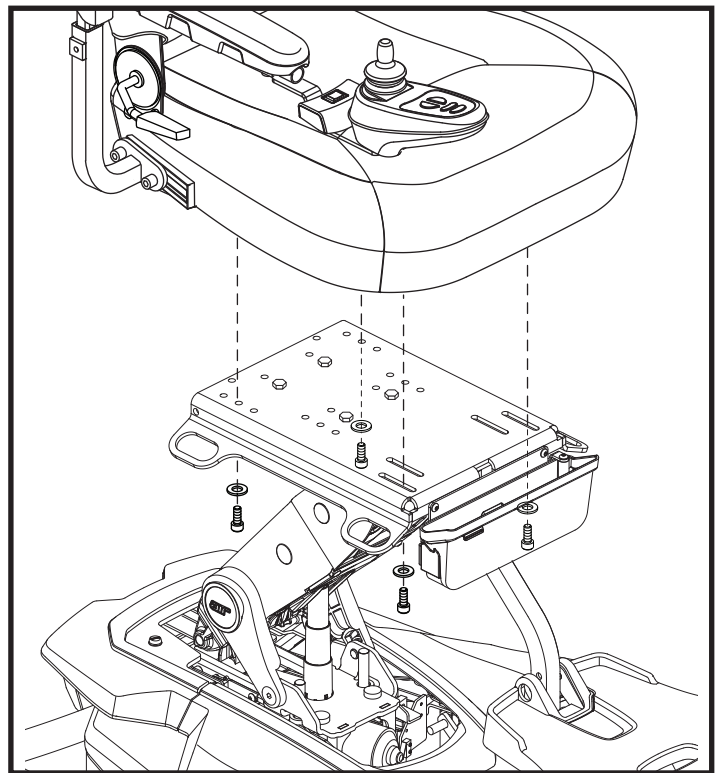

Figure 10. Seat Installation
9. Tip the seat backward. Insert the front bolt with washer through the slot in the seat plate and align with tapped hole in the underside of the seat. Start tightening by hand, leaving the bolts loose. See figure 10.